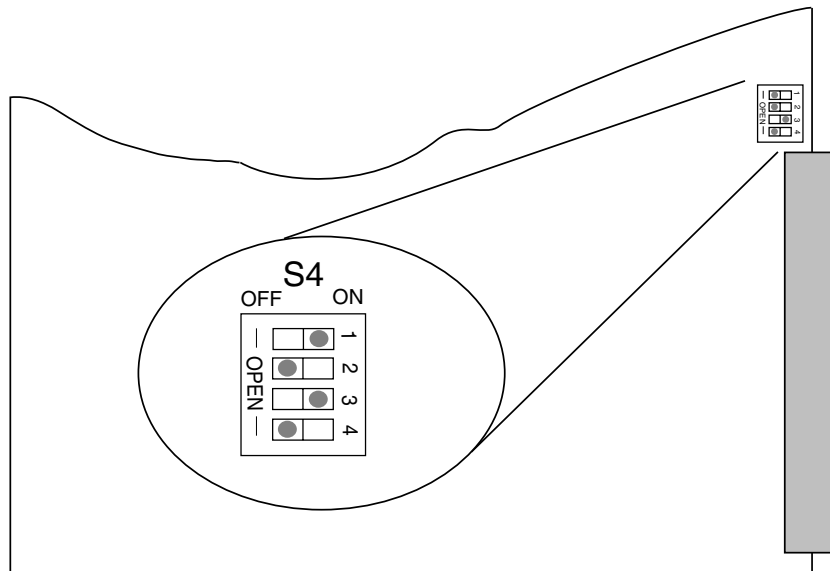

Figure 2-70. Diplexer Impedance Jumper Locations
1. Remove the Diplexer Input module from the frame, and place on a flat, level, static-free surface with the module orientation as shown in Figure 2-70.